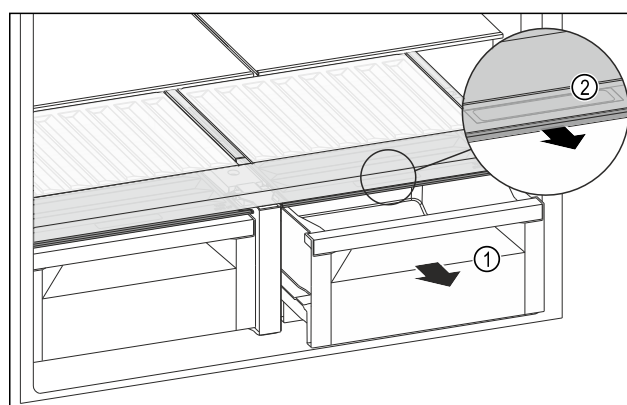

Fig. 127
- ▶ Pull out the drawer Fig. 127 (1).
- ▶ Grip the handle recess Fig. 127 (2) on the lid while pulling the lid forward at the same time.